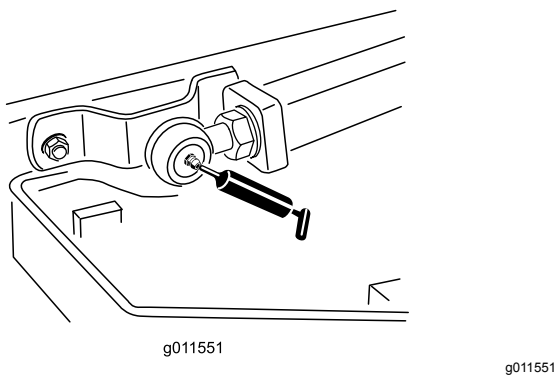

Figure 65
- 2 lift-arm-ball joints (Figure 65)